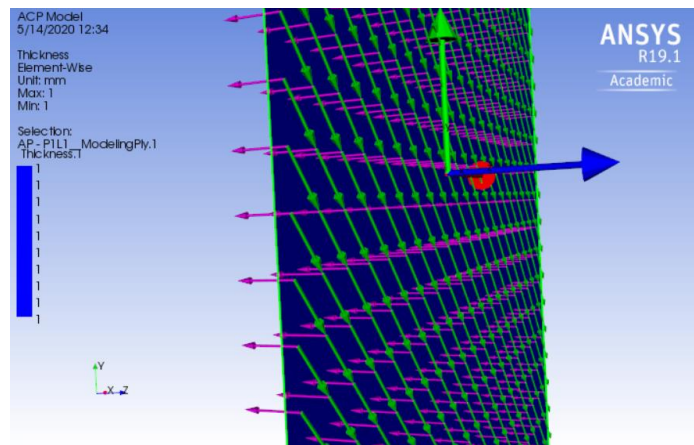

Figure 6. Capturing the display window when orientation and fiber direction indication are activated.
46. Click on the first ply in Modeling Group. 1. On the tool bar of the display window, click the pink and light green arrow to show orientation and fiber direction. The angle starts from 0 at positive x direction and goes in a CCW direction. The orientation direction shows the stacking direction. You should also see the thickness of your laminate on the left side. the Figure 6 illustrates what you should be seen in the display window.